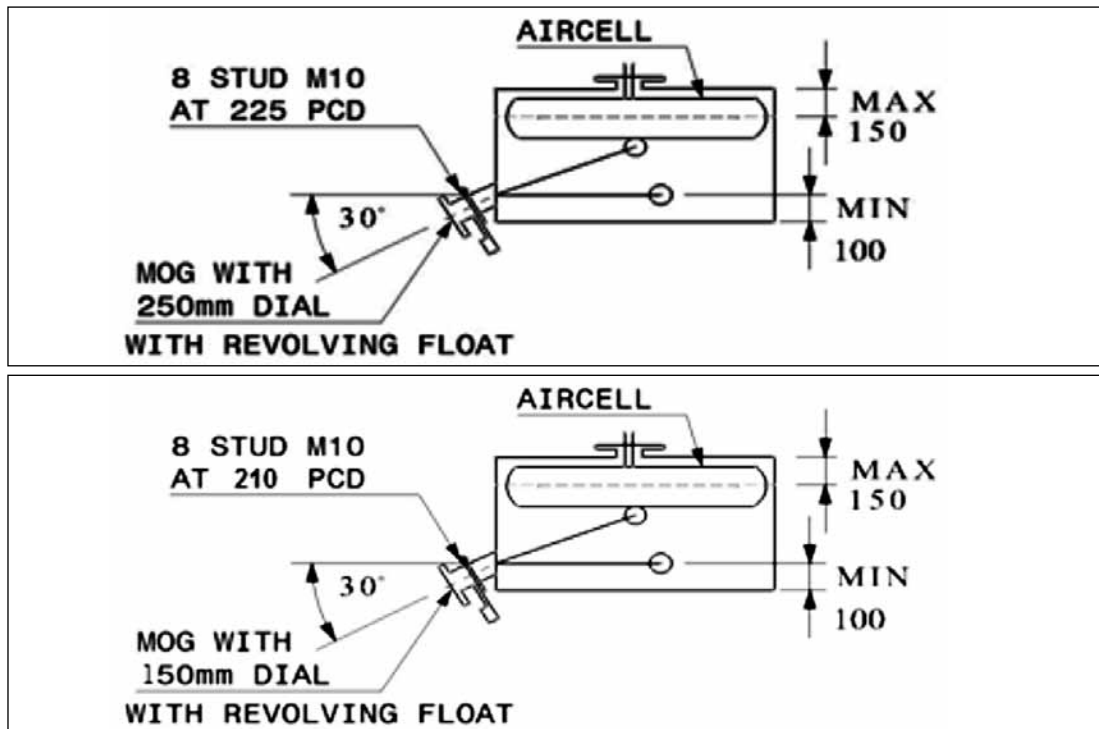
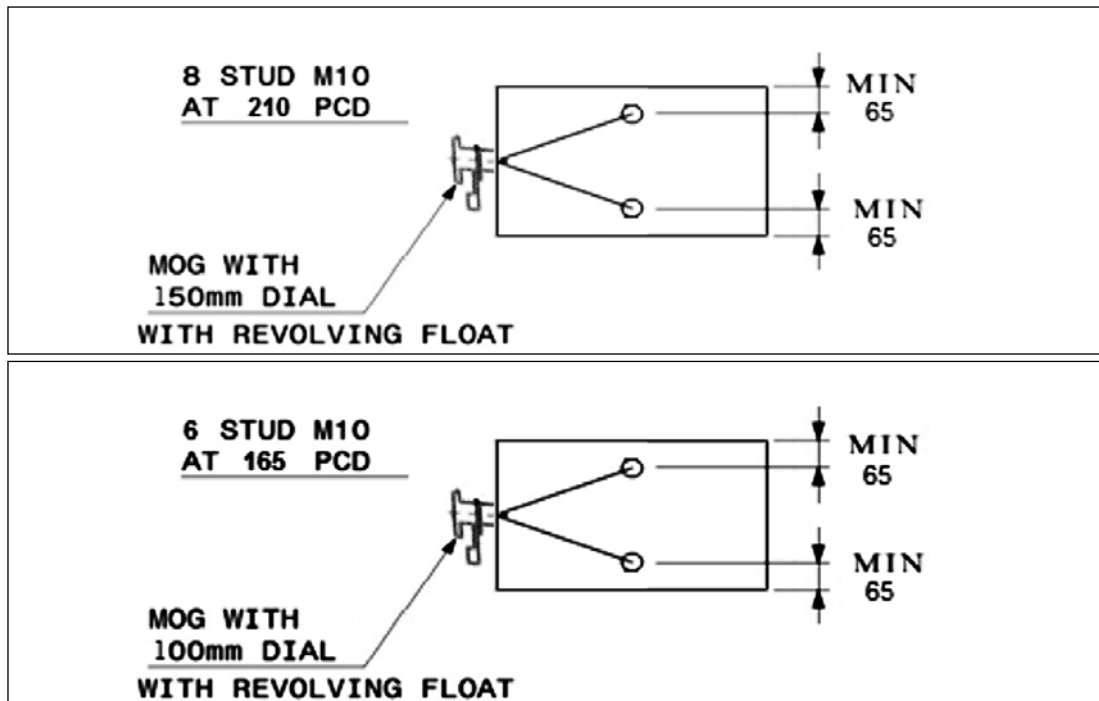

Fig. 2.19
Fig. 2.20
- c) Mount the MOG as shown in Mounting arrangement diagram (Fig. 2.19 and Fig. 2.20).